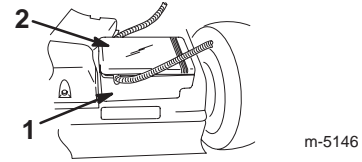

Figure 5
- Remove the battery box cover (Fig. 5).